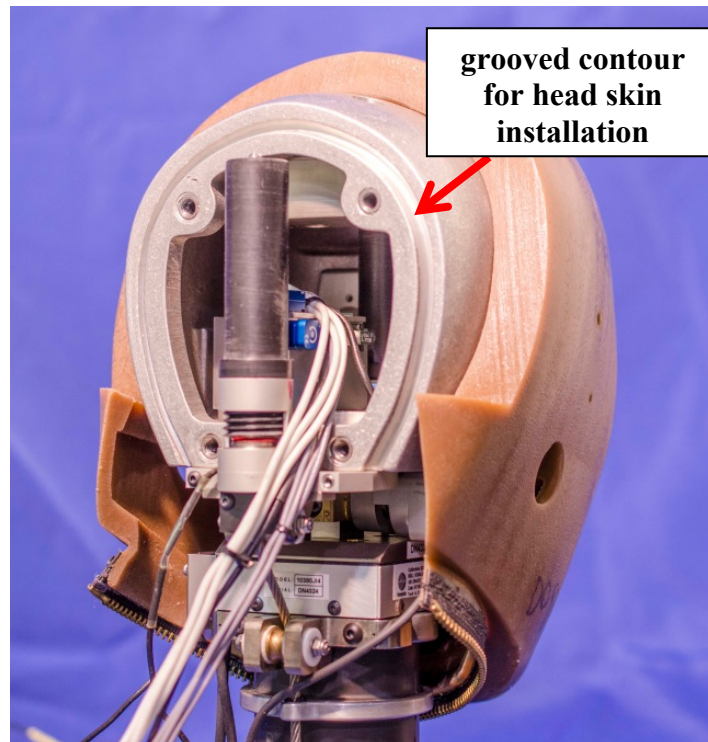

Figure 3-22. Install head skin into grooved contour on skull
- 3.2.2.16 Install the head skin (with face foam inserted) over the skull assembly. Position the posterior skin at the skull cap interface so that the skin seats into the grooved contour on the skull (Figure 3-22). Confirm positive engagement of the skin on the skull by visibility of the Nylon SHCS inside the C.G. hole in the head skin.